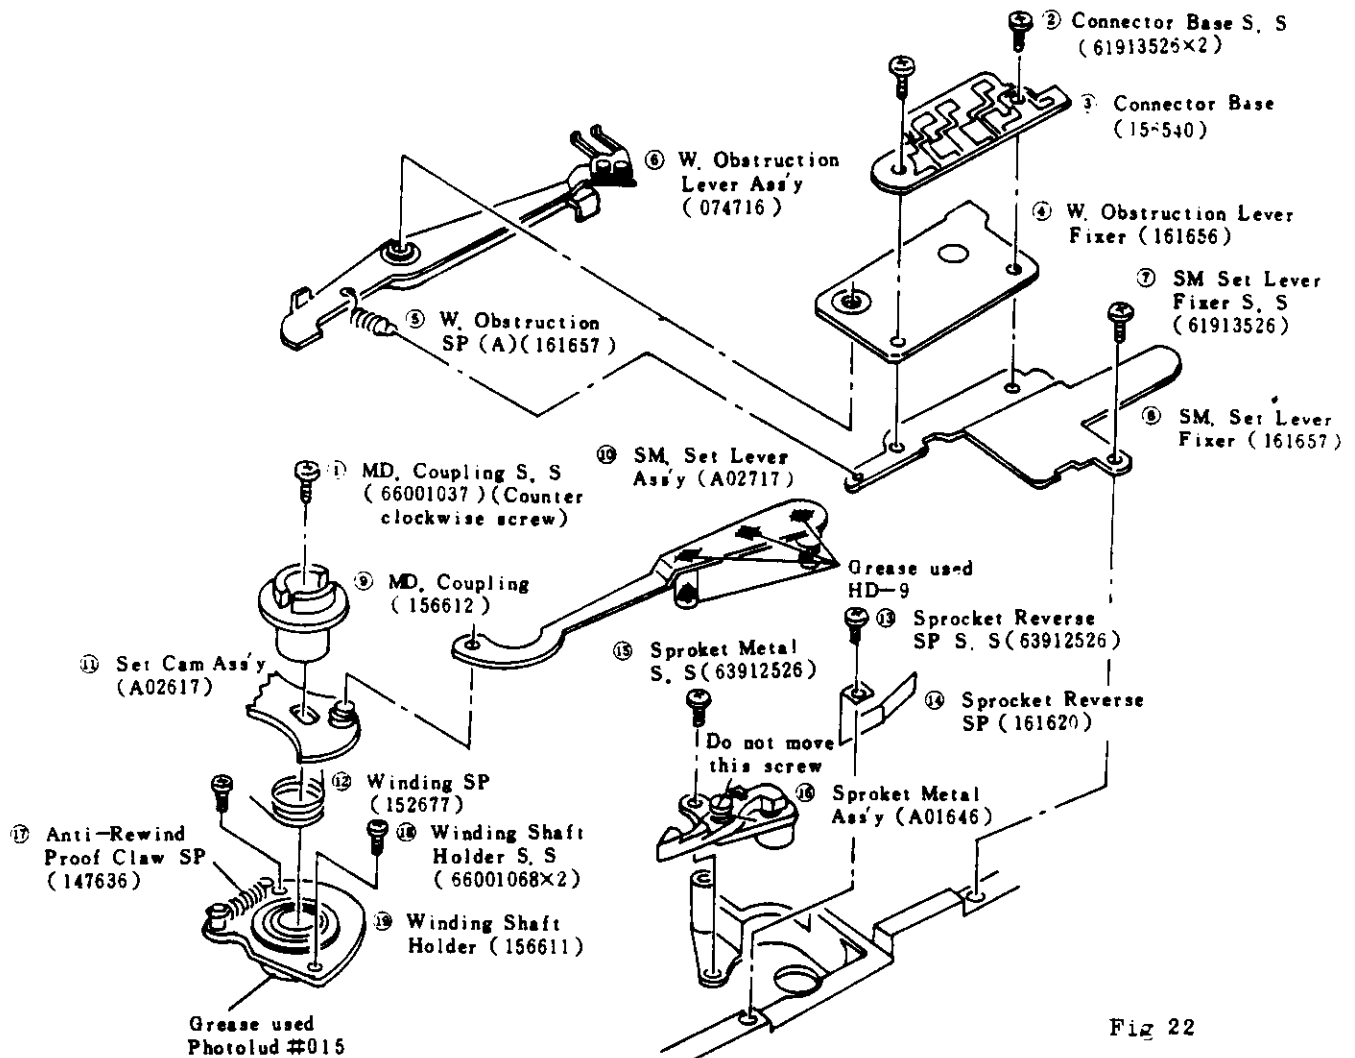

Fig 22
a) Remove the respective parts ① ~ ⑮ shown in (Fig 22) in numerical order.